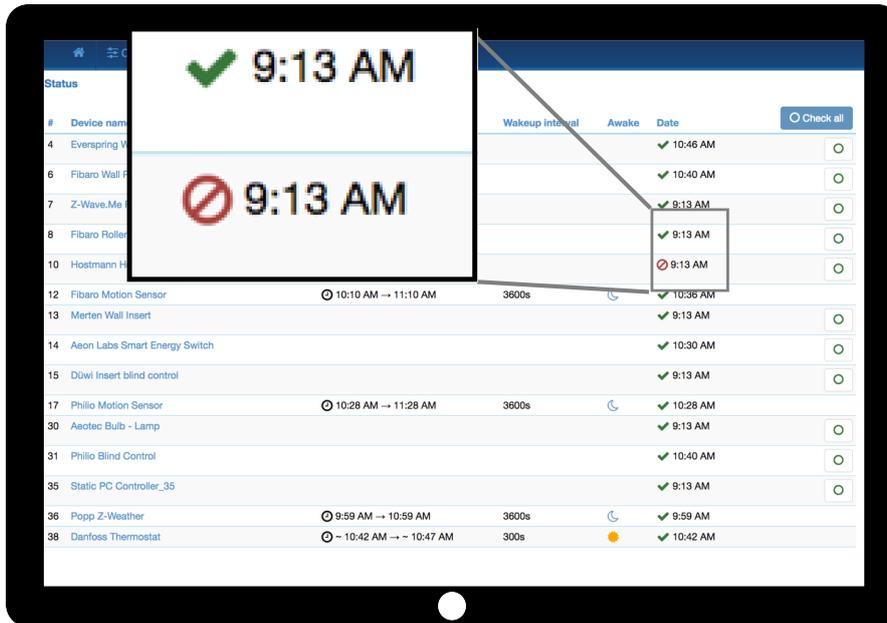

Figure 8.5: Status Page Z-Way™
- They are dead, removed, faulty, stolen, etc. In case of a mains-operated device, the central **Z-Way™** controller will eventually find out that the device is not responding. It will put the device in the failed node list (for more information about failed node please refer to Chapter 7). The Devices >> Status Overview as shown in Figure 8.5 indicates if a device is failed or not. It is possible to make a test if the device is working.
Wrong wakeup settings may either result in too much traffic draining the battery, or in too slow response to sensor update requests or configuration changes. The status overview page as shown in Figure 8.5 gives a simple overview of the wakeup settings of the different battery-operated sleeping devices. The device-specific configuration settings allow changing these settings. Besides the wakeup interval, the setting also allows setting/changing the Node ID of the controller holding the mailbox of this device. This setting must reflect the correct situation in the network.